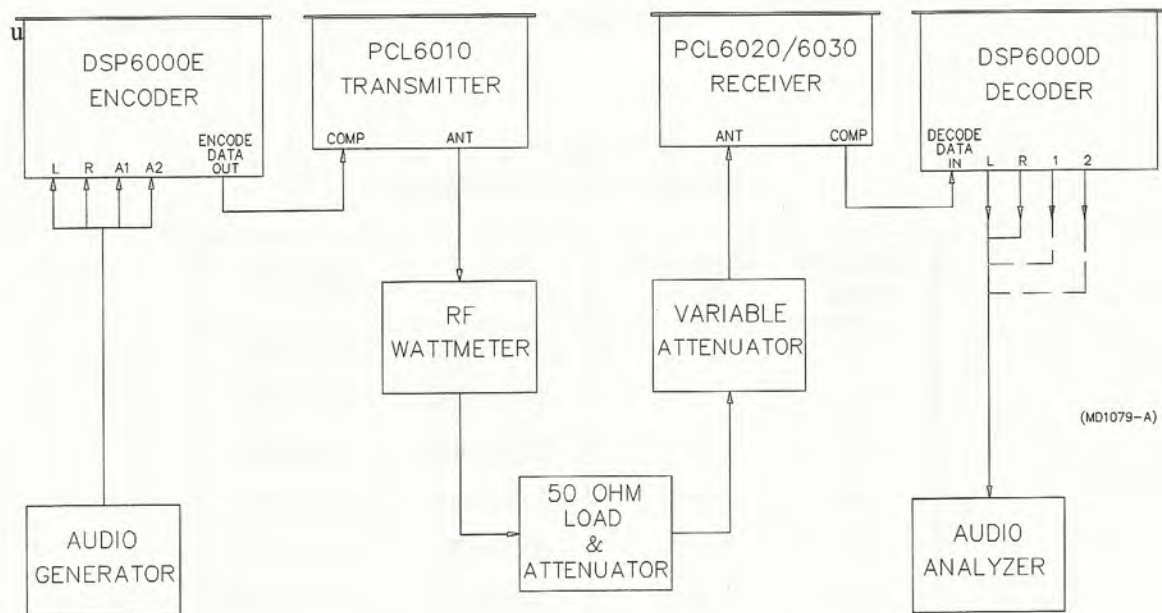

Figure 5-9
- 4a. For **STL** operation, set up decoder with encoder and STL radio system as shown in Figure 5-9, and apply power. Adjust variable attenuator for received signal strength of approximately $1000\mu\text{V}$.